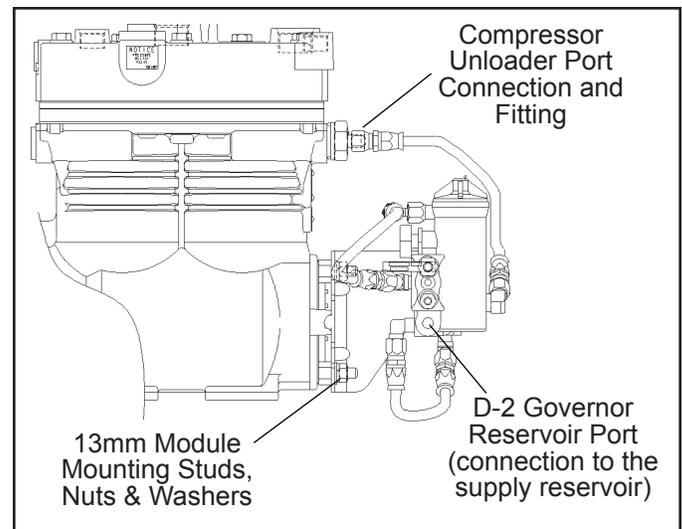

Figure 4 – Compressor Mount Module Installation
5. Remove the metal braided hose from the fitting installed in the compressor unloader port. (See *Figure 4*.)
6. Remove the two 13mm nuts and lock washers and flat washers that secure the module mounting bracket on the studs in the rear end cover of the compressor. Remove the module from the compressor. (See *Figure 4*.) Proceed to the Installation section.
2. Install the governor module on the studs and orient it as shown in *Figure 4*. Secure the module bracket on the studs installing the flat washers, then lock washers and 13mm nuts. Torque the nuts to 195-212 in-lbs.